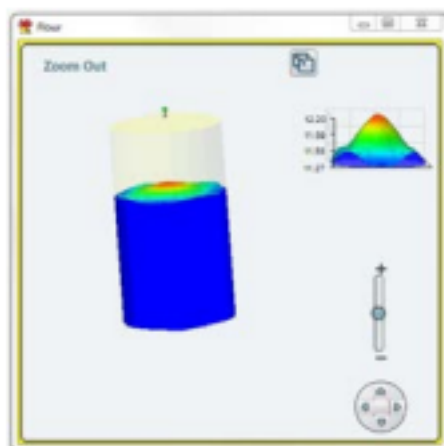

Figure 32: Product 3-Dimensional profile
- ⑥ To view a 3-dimensional profile, right-click on a vessel in the main work area and select **Show 3D Profile** from the drop-down menu. The profile window opens (Figure 32).